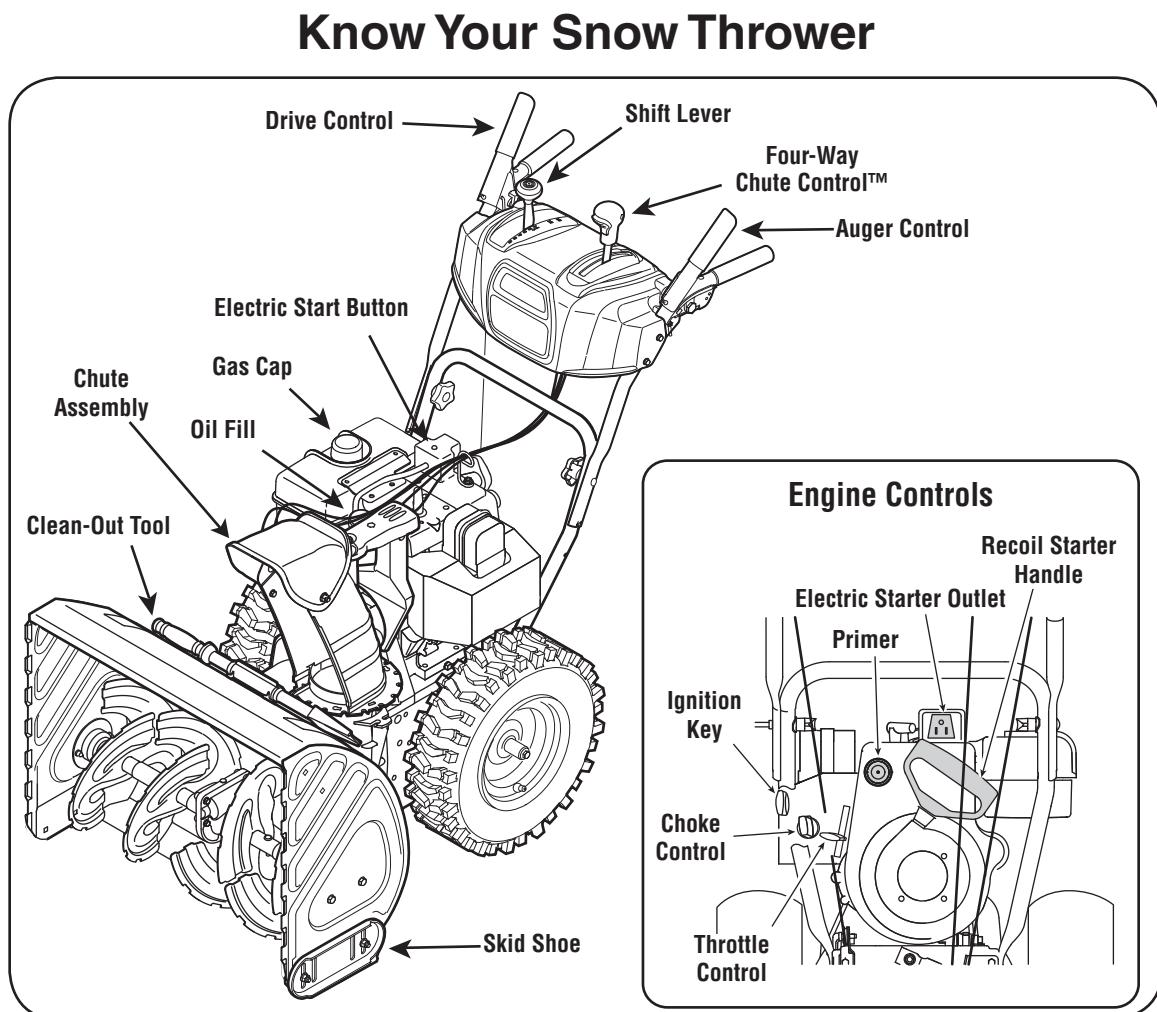

Figure 12
- To turn the unit left or right, squeeze the respective wheel steering control. See Figure 12.